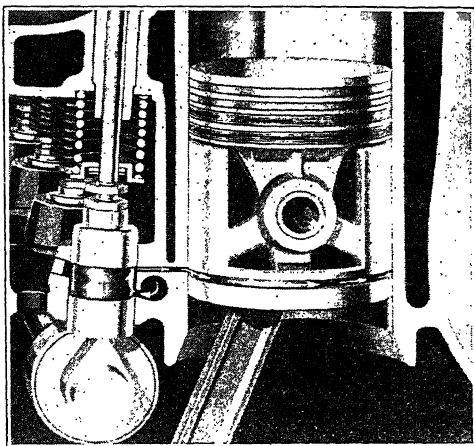

Fig. 36. Graham Instantaneous Cylinder Lubrication
**Graham Cylinder Lubrication.** To secure instantaneous cylinder lubrication in cold weather, Graham engineers have provided a special lubrication system designed to place oil into a groove which runs around the lower portion of the piston skirt as shown in Fig. 36. Here it will be noted that oil coming through a cored oil passage in the cylinder casting is forced into a channel machined around the valve lifter. When the valve lifter is on the top of the cam, it will be noted that a drill